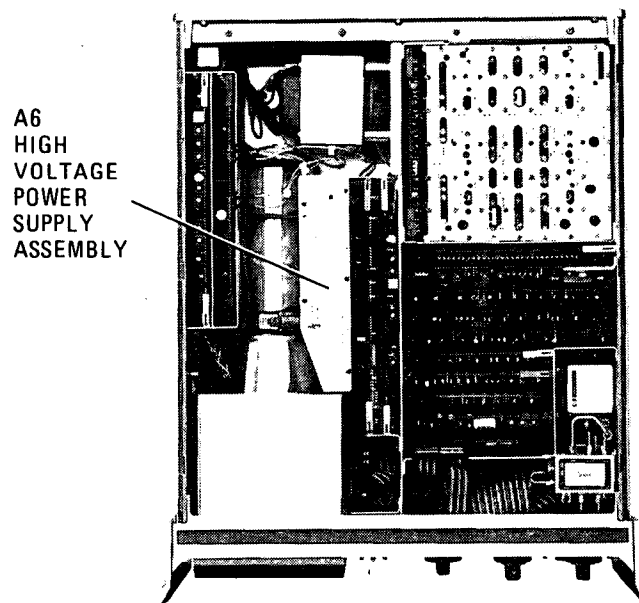

Figure 5-4. High Voltage Power Supply and Oscillator Driver Adjustment Locations
- 6. Adjust A6R4 HV (Figure 5-4) for a reading equal to calibration factor (calculated in step 4c), times voltage recorded in step 2.